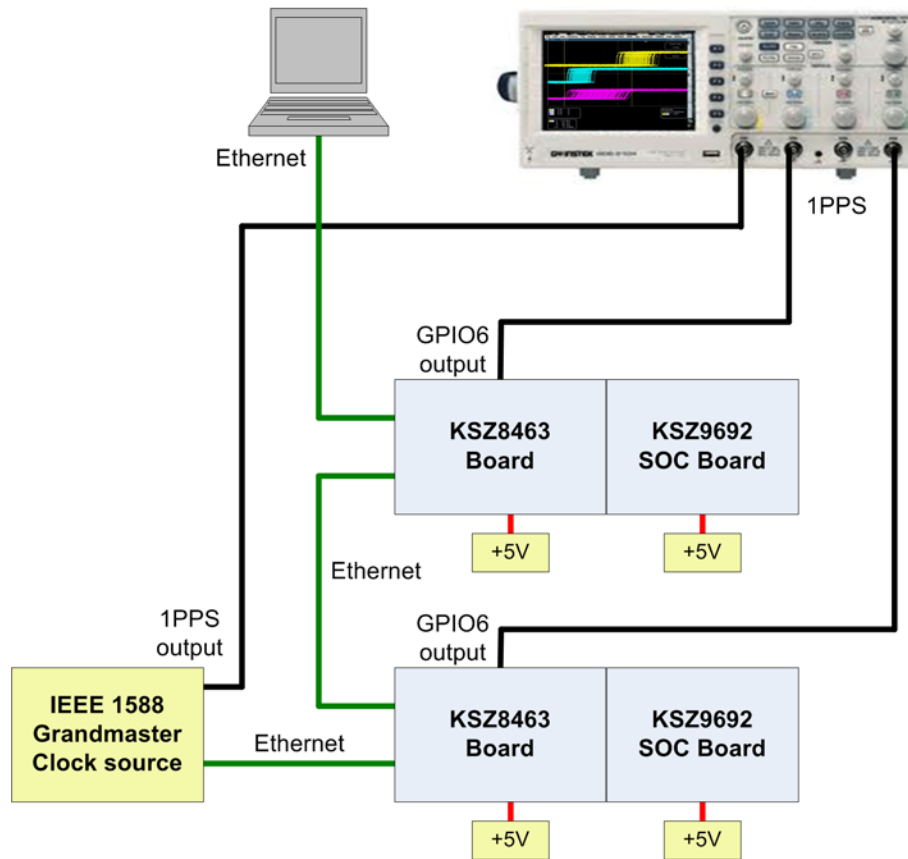
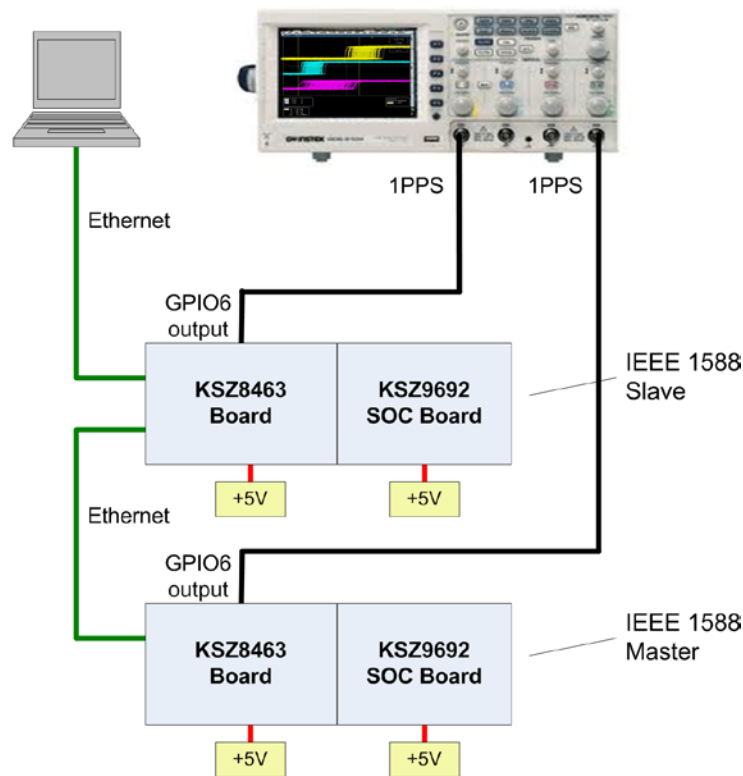

Figure 5 Setup #3
Figure 6 Setup #4
Figure 5 shows two KSZ8463 network nodes, but the setup works just as well with a single KSZ8463 node.
Figure 6 shows two KSZ8463 network nodes, but the setup works just as well with a single KSZ8463 node.
3. Connect together the Ethernet ports of the KSZ8463 boards and the PC as shown in Figure 6.
PC for simultaneous communication to all the networked KSZ8463 / SOC nodes. Connection setups are shown in Figure 5 and Figure 6.